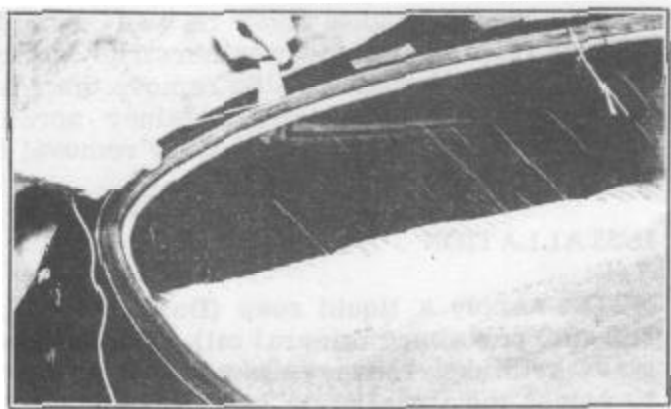
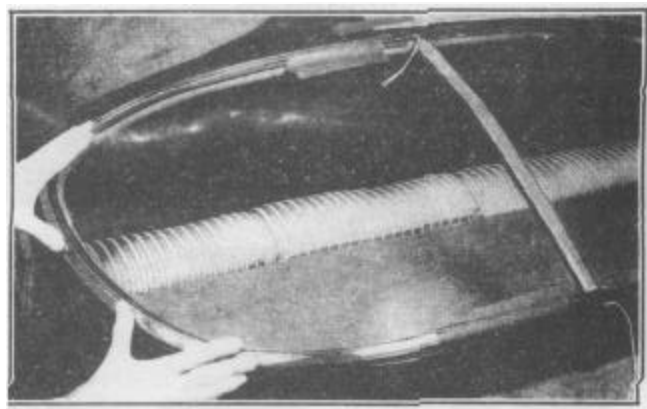

FIGURE 54
FIGURE 55
2. Using a tapered fibre or hardwood wedge pry up the outer lip of the rubber weatherstrip, Figure 54, and place the cord under the weatherstrip lip starting at the top center of the rear window and continuing around one half of window to bottom center of rear window, leaving sufficient cord at each end to provide a good hold for pulling release cord, Figures 55 and 56.
3. Place a joint cover on each end of the reveal moulding. Fit the reveal moulding as close as possible to the contour of the rear window weatherstrip and retain the moulding in its approximate installed position by placing a piece of masking tape on the moulding to glass, near both ends of the moulding, Figures 55 and 56.